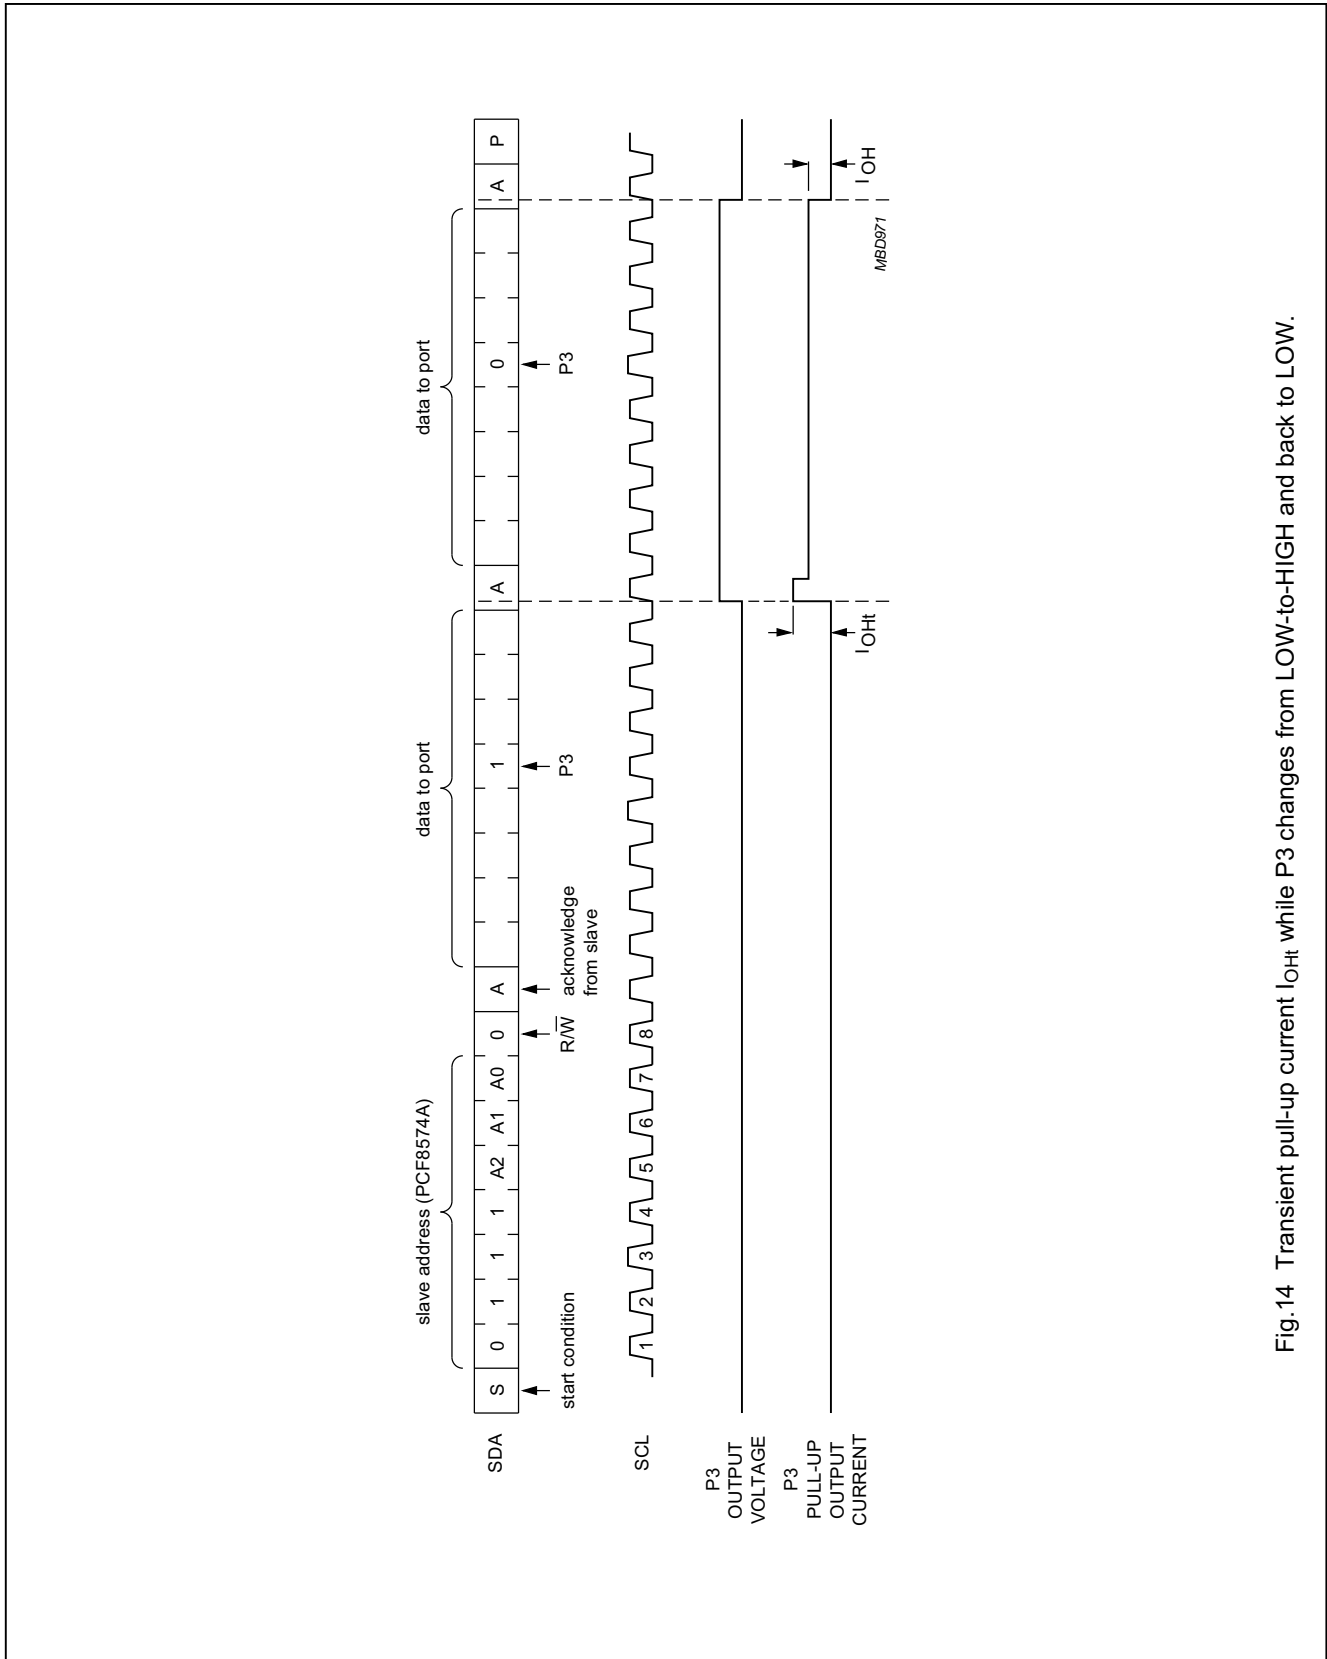

Fig.14 Transient pull-up current I_{OHt} while P3 changes from LOW-to-HIGH and back to LOW.
7.3 Quasi-bidirectional I/Os (see Fig.14)
| I _{OHt} | transient pull-up current | HIGH during acknowledge (see Fig.14); V _{OH} = V _{SS} ; V _{DD} = 2.5 V | - | -1 | - | mA |